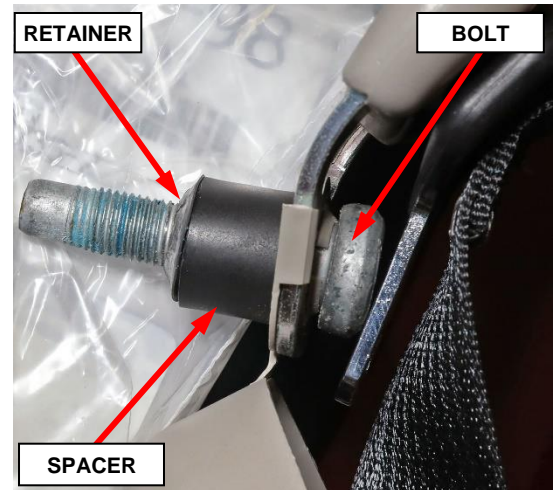

Figure 39 – Turning Loop Bolt
56. Remove and **DISCARD** the bolt retainer and the bolt from the seat belt turning loop, save the spacer for reuse (Figure 39).